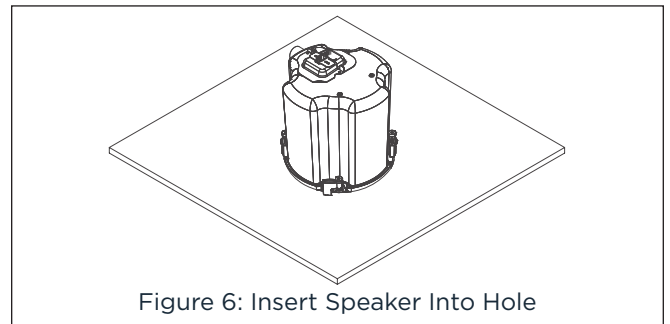

Figure 6: Insert Speaker Into Hole
5. Make sure the Roto-Lock Clamps are in the full clockwise position so that all the clamps are tucked within the cutout border. Insert the speaker into the hole in the ceiling (see Figure 6).